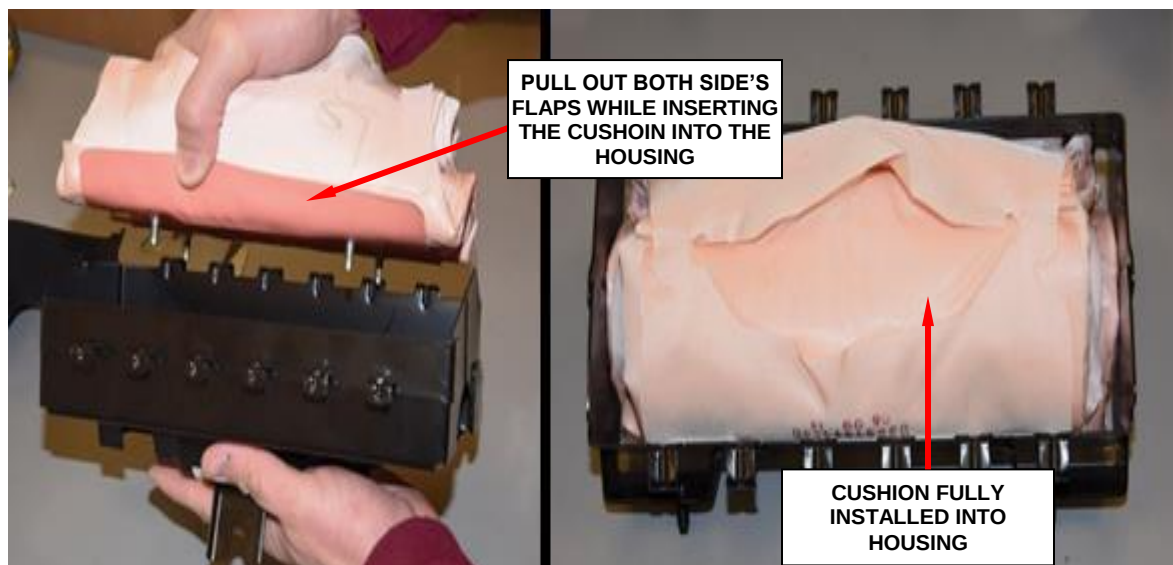

Figure 175 - Side Flaps Must Be Held Out
- Remove and save the stopper plate from the passenger airbag module (Figure 175).